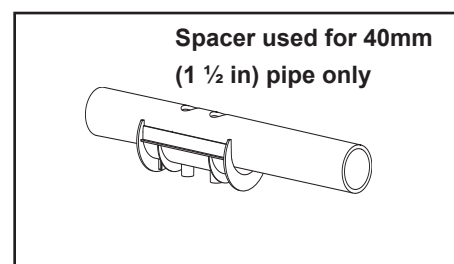

Figure 9. Pipe Spacer
9. Use the pipe spacer as shown if mounting on a 40 mm (1½ in.) pipe (see Figure 9).